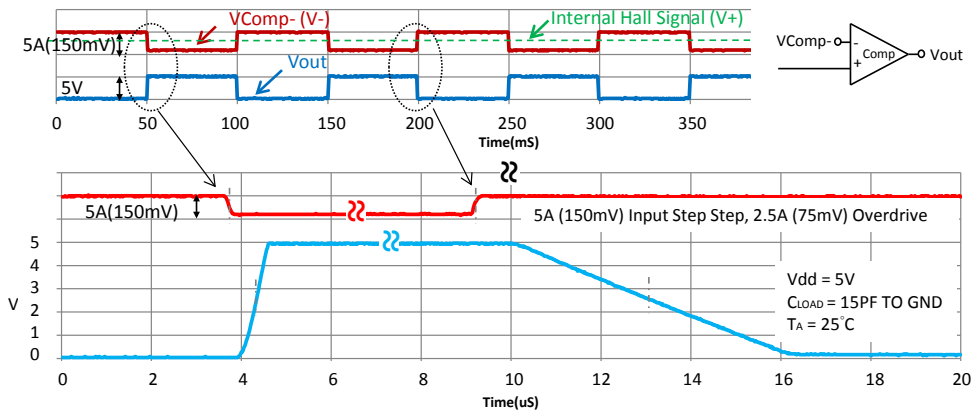

Fig. 1
3. Response time can refer to “characteristic Diagrams” Fig.1~3.